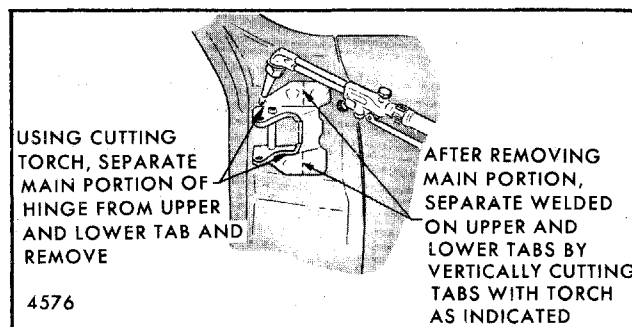

Fig. 5-95-Body Side Hinge Strap Removal - "X" Styles Shown, "H" Styles Similar
4. Using a cutting torch, separate main portion of hinge from upper and lower tabs. After main portion has been removed, vertically cut upper and lower hinge tabs with cutting torch as shown in Figure 5-95.
4. Using a cutting torch, separate main portion of hinge, including hold-open link and spring, from upper and lower tabs. After main portion has been removed, vertically cut upper and lower hinge tabs with cutting torch as shown in Figure 5-95.